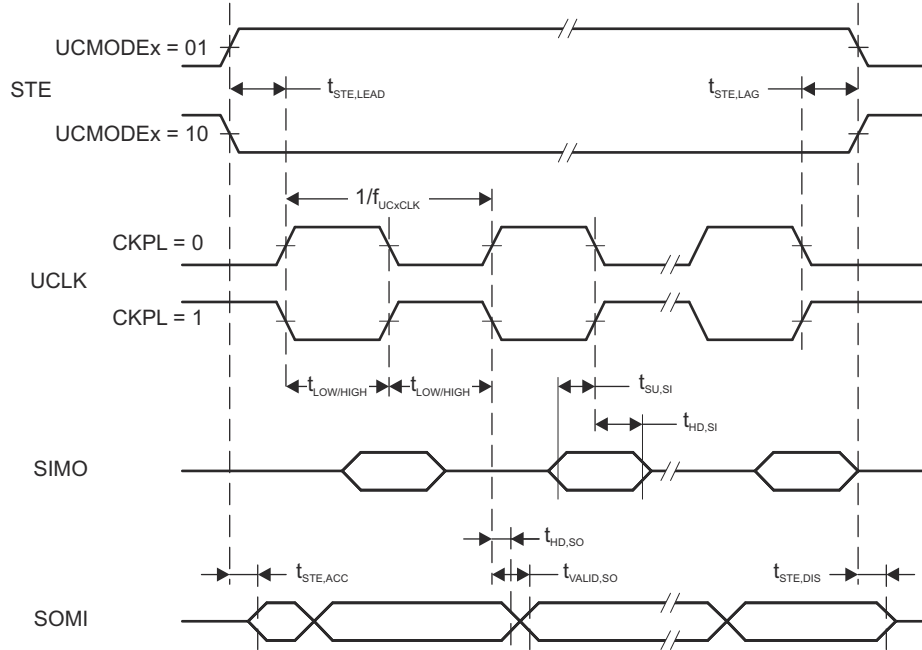
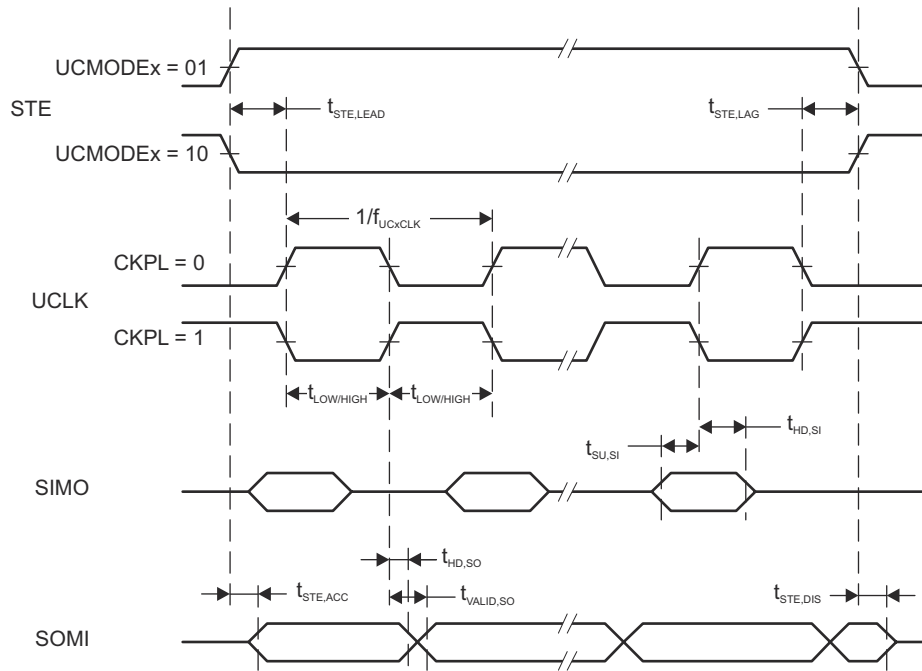

Figure 8-15. SPI Slave Mode, CKPH = 0
Figure 8-16. SPI Slave Mode, CKPH = 1
- (2) Specifies the time to drive the next valid data to the SOMI output after the output changing UCLK clock edge. See the timing diagrams in Figure 8-15 and Figure 8-16.
- (3) Specifies how long data on the SOMI output is valid after the output changing UCLK clock edge. Refer to the timing diagrams in Figure 8-15 and Figure 8-16.